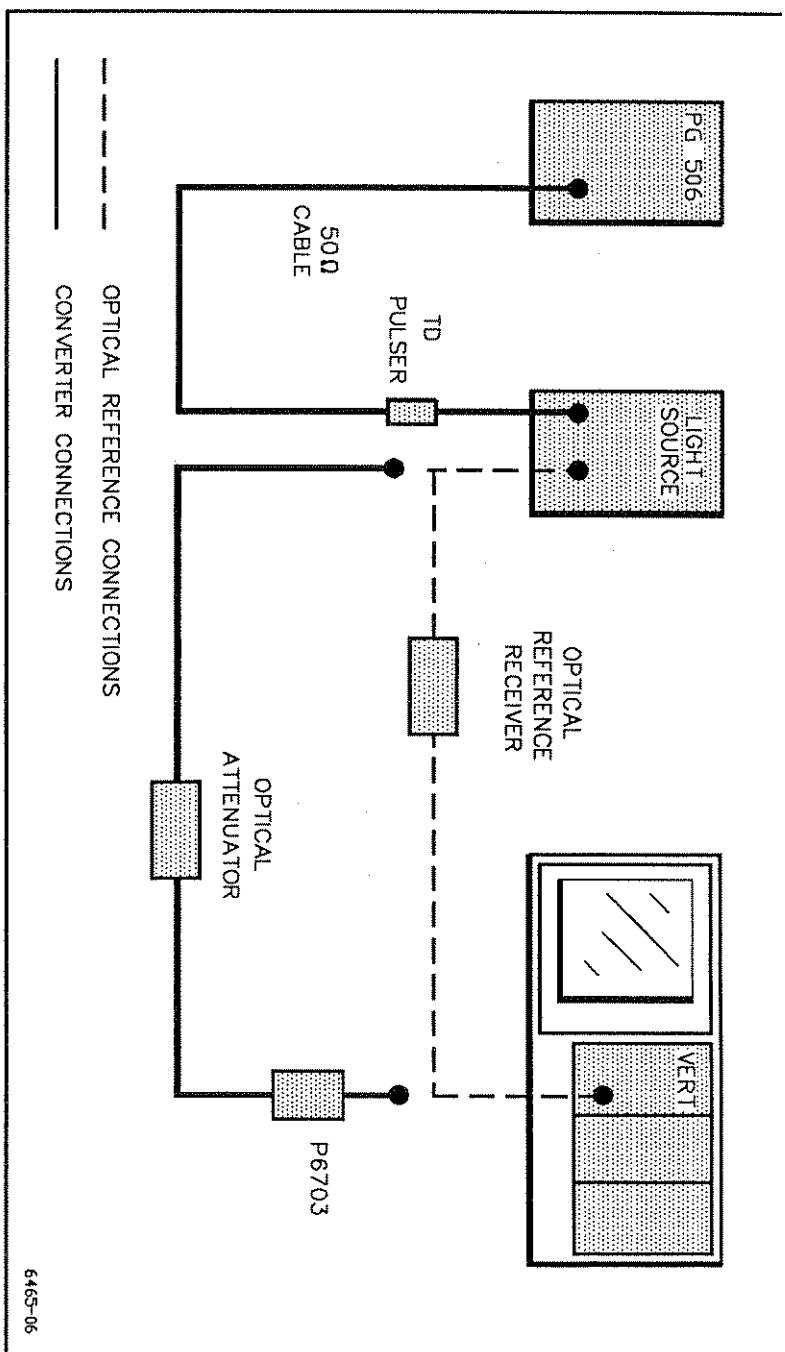

Figure 4-2. Riseline and Aberration Check Setup.
d. Connect the output of the light source to the input of the optical reference receiver. Connect the output of the optical receiver to the oscilloscope system vertical input (refer to Figure 4-2).